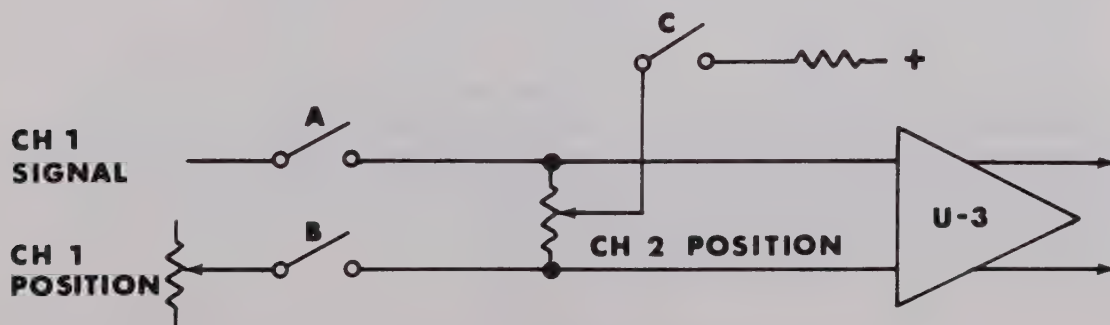

Figure 4-1. Chopper Connections
CHANNEL 1 vertical input signal is coupled through the AC/DC/GND switch to the X1 or $\div 100$ input attenuator. The input buffer amplifier U9 has a high input impedance (so that the input attenuator will not be loaded) and has a low output impedance to drive the post attenuator. The post attenuator has the vernier control providing variable gains between fixed attenuator steps of $\div 1$ to $\div 50$. The combination of input and post attenuators normalizes the input signal to 80 millivolts full scale peak-to-peak. A X1 buffer amplifier unloads the post attenuator and drives the CH 1 chopper circuit. Selecting CH 1 turns the chopper switches on continuously. In the ALT mode the CH 1 chopper switches are on for one sweep and off the next sweep, while the CH 2 chopper is on. The CHOP mode causes the CH 1 and CH 2 chopper switches to alternate at about a 100 KHz rate between channels during the same sweep. Both CH 1 and CH 2 switches are turned on continuously for the ADD mode. For the CH 2 mode, the CH 1 chopper is off, with the CH 2 chopper on. Each channel chopper may be considered as a two pole single-throw electronic switch controlled by a transistor driver. In the CH 1 chopper, one pole (A) conducts input signals and the other pole (B) conducts CH 1 vertical position dc levels. See Figure 4-1.